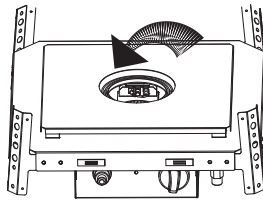

Figure 4
- c. While depressing control knob, place long-stem lighter beneath the flame tube to light the pilot (Figure 4).